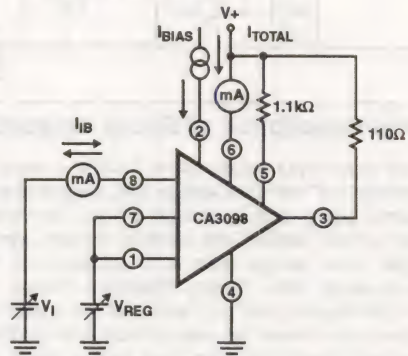

FIGURE 3. TOTAL SUPPLY CURRENT, AND INPUT BIAS CURRENT TEST CIRCUIT
- For definition of  $V_{REG}$  see Figure 3.
- Continuous (DC) output current must be limited to  $\leq 40\text{mA}$ . For 100mA output current, the duty cycle must be  $\leq 40\%$ .
\* See Figure 3 for definition of  $V_{REG}$